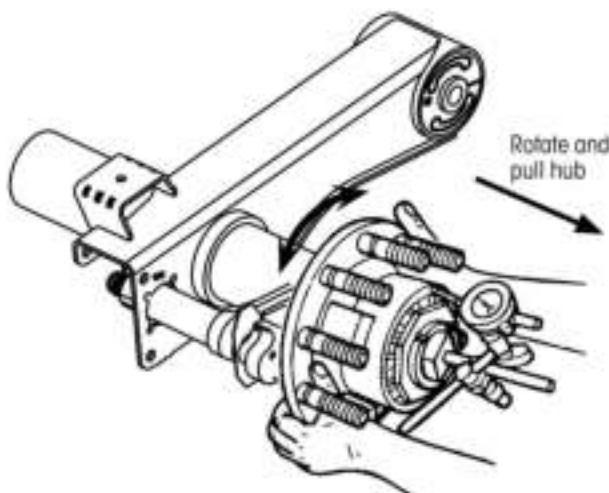

Figure 6: Checking outward end-play
9. While still grasping hub (Figure 6) pull hub outward while rotating hub slightly in both directions (between two hub cap fastener holes) until dial indicator reading remains constant. Record reading.